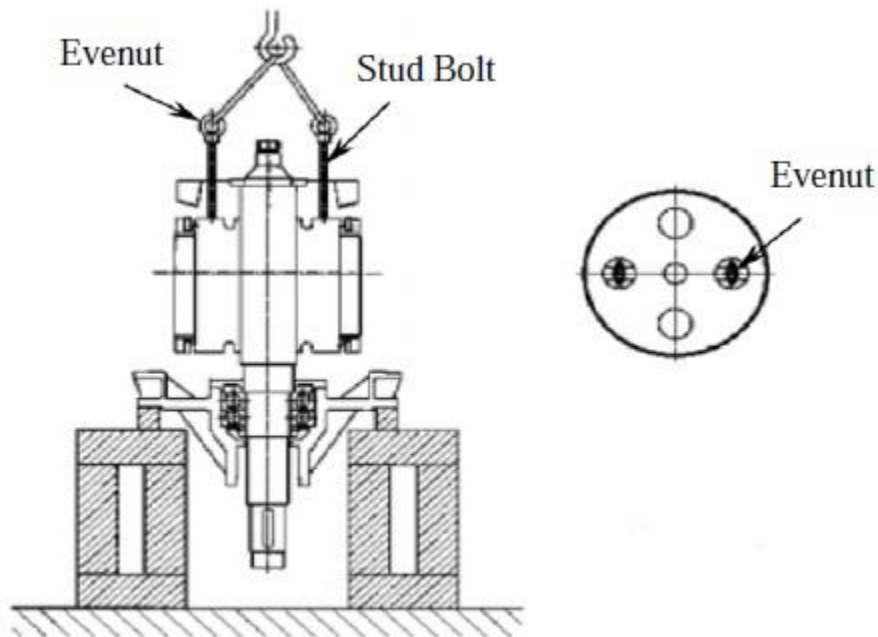

Fig. 7
(1) First remove bearing cover after detached screws, Bearing housing extraction being done in the Bearing thereby expanding its fitting outer diameter, the extraction work should be carried out promptly and carefully. Since the extracting method depends upon form and dimension of Bearing housing from bearing, fitting allowance/clearances with bearing, fitting length, etc., a minute study is necessary beforehand in order to decide the extracting procedures and determine the heating temperature, etc. of bearing housing. Here under, we describe an extraction work which is considered as the most popular.
(2) As illustrated in Figure 7 below, heat the housing with burner to extract it. Continue to heat it up to the predetermined temperature commencing from the outer circumference of bore and then heat them. Chain block shall remain tightened.